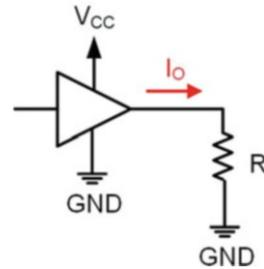

Fig. 3.40
- 3.4.3 For the pull-down driver configuration shown in Fig. 3.40, what is the output current (I_o) if $V_{CC} = +5v$ and $R = 50 \Omega$?
- 3.4.4 For the pull-down driver configuration shown in Fig. 3.40, what is the output current (I_o) if $V_{CC} = +5v$ and $R = 100 \Omega$?
- 3.4.5 For the pull-down driver configuration shown in Fig. 3.40, what is the output current (I_o) if $V_{CC} = +5v$ and $R = 1 \text{ k}\Omega$?
- 3.4.6 For the pull-down driver configuration shown in Fig. 3.40, what is the output current (I_o) if $V_{CC} = +3.4v$ and $R = 50 \Omega$?
- 3.4.7 For the pull-down driver configuration shown in Fig. 3.40, what is the output current (I_o) if $V_{CC} = +3.4v$ and $R = 100 \Omega$?
- 3.4.8 For the pull-down driver configuration shown in Fig. 3.40, what is the output current (I_o) if $V_{CC} = +3.4v$ and $R = 1 \text{ k}\Omega$?
- 3.4.9 For the pull-down driver configuration shown in Fig. 3.40, if $V_{CC} = +5v$, $R = 75 \Omega$, and $I_{O, \text{MAX}} = 50 \text{ mA}$, is the maximum output current specification violated?
- 3.4.10 For the pull-down driver configuration shown in Fig. 3.40, if $V_{CC} = +5v$, $R = 150 \Omega$, and $I_{O, \text{MAX}} = 50 \text{ mA}$, is the maximum output current specification violated?
- 3.4.11 For the pull-down driver configuration shown in Fig. 3.40, if $V_{CC} = +5v$, $R = 500 \Omega$, and $I_{O, \text{MAX}} = 50 \text{ mA}$, is the maximum output current specification violated?
- 3.4.12 For the pull-down driver configuration shown in Fig. 3.40, if $V_{CC} = +3.4v$, $R = 75 \Omega$, and $I_{O, \text{MAX}} = 25 \text{ mA}$, is the maximum output current specification violated?
- 3.4.13 For the pull-down driver configuration shown in Fig. 3.40, if $V_{CC} = +3.4v$, $R = 150 \Omega$, and $I_{O, \text{MAX}} = 25 \text{ mA}$, is the maximum output current specification violated?
- 3.4.14 For the pull-down driver configuration shown in Fig. 3.40, if $V_{CC} = +3.4v$, $R = 500 \Omega$, and $I_{O, \text{MAX}} = 25 \text{ mA}$, is the maximum output current specification violated?
- 3.4.15** For the pull-down driver configuration shown in Fig. 3.40 with $V_{CC} = +5$ v, calculate the value of the pull-down resistor (R) in order to ensure that the output current does not exceed 20 mA.
- 3.4.16** For the pull-down driver configuration shown in Fig. 3.40 with $V_{CC} = +5$ v, calculate the value of the pull-down resistor (R) in order to ensure that the output current does not exceed 25 mA.
- 3.4.17** For the pull-down driver configuration shown in Fig. 3.40 with $V_{CC} = +5$ v, calculate the value of the pull-down resistor (R) in order to ensure that the output current does not exceed 50 mA.
- 3.4.18** For the pull-down driver configuration shown in Fig. 3.40 with $V_{CC} = +3.4$ v, calculate the value of the pull-down resistor (R) in order to ensure that the output current does not exceed 20 mA.
- 3.4.19** For the pull-down driver configuration shown in Fig. 3.40 with $V_{CC} = +3.4$ v, calculate the value of the pull-down resistor (R) in order to ensure that the output current does not exceed 25 mA.
- 3.4.20** For the pull-down driver configuration shown in Fig. 3.40 with $V_{CC} = +3.4$ v, calculate the value of the pull-down resistor (R) in order to ensure that the output current does not exceed 50 mA.